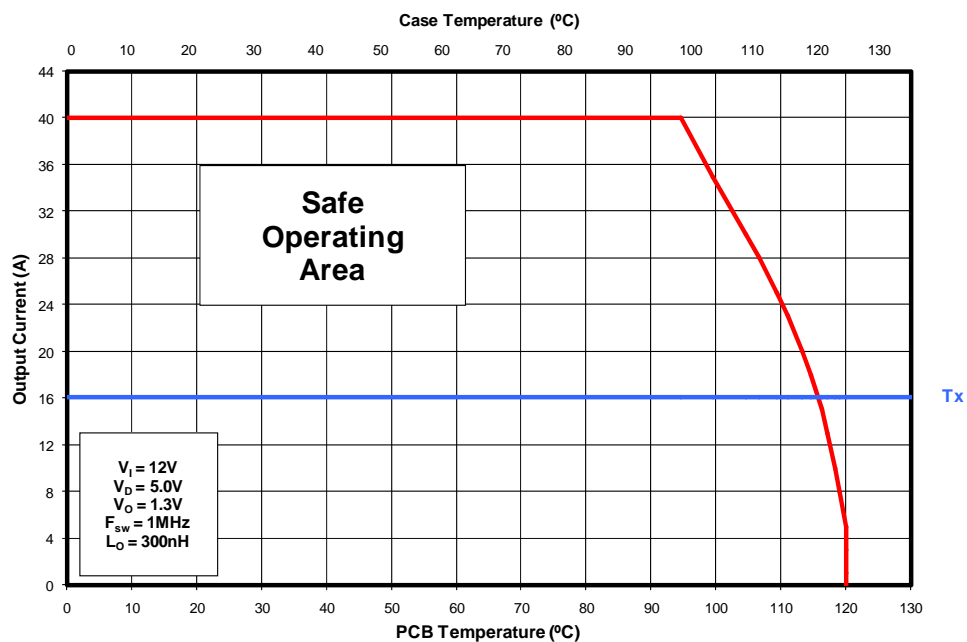

Figure 2 Safe Operating Area (SOA) versus PCB and CASE temperatures (See page 6 for details)
3. Then, add the sum of the SOA temperature adjustments to the T_x axis intercept in Figure 2